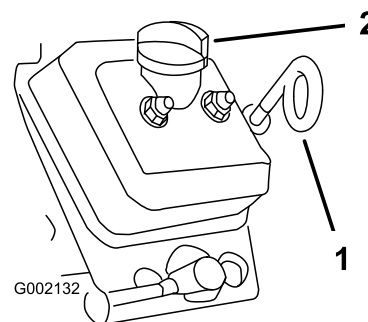

Figure 18
3. Use a rag to clean around the oil dipstick and fill cap (Figure 18) so that dirt cannot fall into the dipstick tube or oil-filler neck and damage the engine.
4. Remove the oil dipstick and wipe the end clean (Figure 18).
5. Slide the oil dipstick into the dipstick tube fully seating it (Figure 18).
8. Install the filler cap; refer to Figure 18.
9. Install the oil dipstick and firmly seat it (Figure 18).